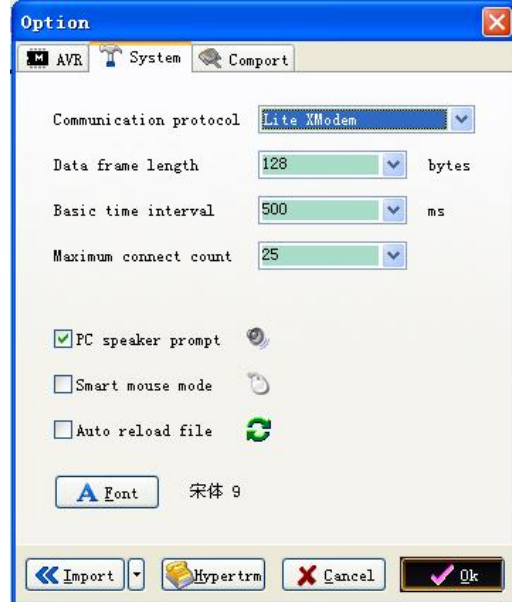

Fig. 2
- 4) Change settings on tab "System" as per Fig. 2. Communications protocol should be set to "Lite Xmodem". Increase "Maximum connection count" to 50 or 100. This will make connecting easier.